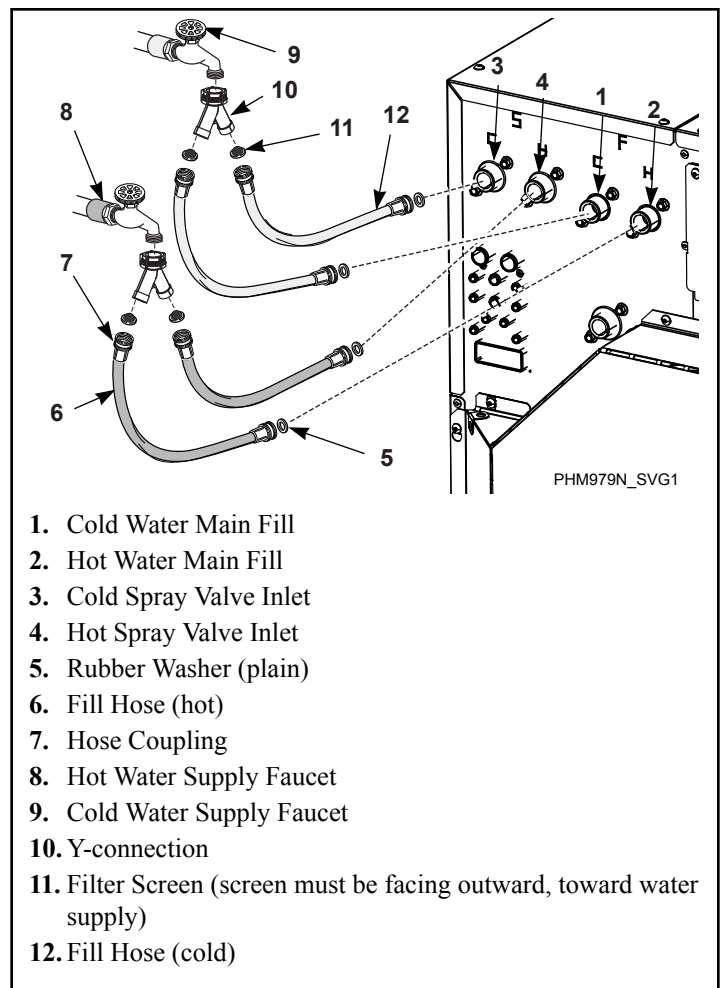

Figure 23
1. Before installing hoses, flush the building's water system at the machine connection valves for at least two (2) minutes.
2. Remove the four (4) plain rubber washers and four (4) filter screens from the accessories bag supplied with the machine.
3. Install one (1) plain rubber washer onto one end and one (1) filter screen into the other end of each fill hose. The screens must be facing outward toward the water supply. Refer to *Figure 23*.
4. Screw one (1) of the Y-connectors (supplied with the machine) into the cold water supply faucet and one (1) into the hot water supply faucet.
7. Screw the coupling with the plain rubber washer of one (1) of the hoses attached to the hot water connection onto the main fill valve inlet (marked "H", beneath the "F" mark). Screw the coupling with the plain rubber washer of the other hot water hose onto the spray valve inlet (marked "H", beneath the "S" mark). Tighten to finger-tight. Refer to *Figure 23*.
8. Screw the coupling with the plain rubber washer of one (1) of the hose attached to the cold water connection onto the main fill valve inlet (marked "C", beneath the "F" mark). Screw the coupling with the plain rubber washer of the other cold water hose onto the spray valve inlet (marked "C", beneath the "S" mark). Tighten to finger-tight. Refer to *Figure 23*.